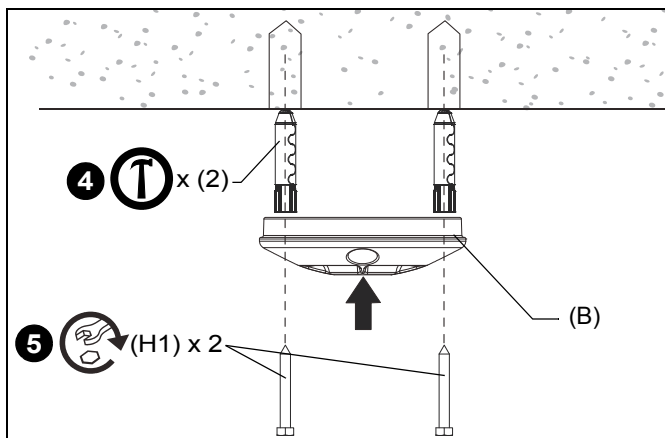

Figure 5
- Install two Fischer UX10 or Toggler AF8 concrete anchors (not included) into pilot holes until flush with mounting surface. (See Figure 5)
- Loosely secure ceiling plate (B) to structure using two (minimum) 5/16" x 2-3/4" lag bolts (H1). (See Figure 5)
- Tighten lag bolts. (See Figure 5)